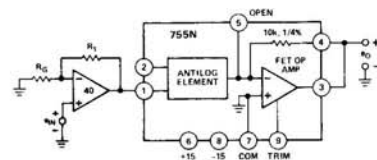

Figure 6. Method for Adjusting $K < 2/3V$
Scale Factor (K) Adjustment – The scale factor may be adjusted for all values of K greater than 2/3V by the technique described in the log section. If a value of K, less than 2/3V is desired for a given application, an external op amp would be required as shown in Figure 6. The ratio of the two resistors approximately: